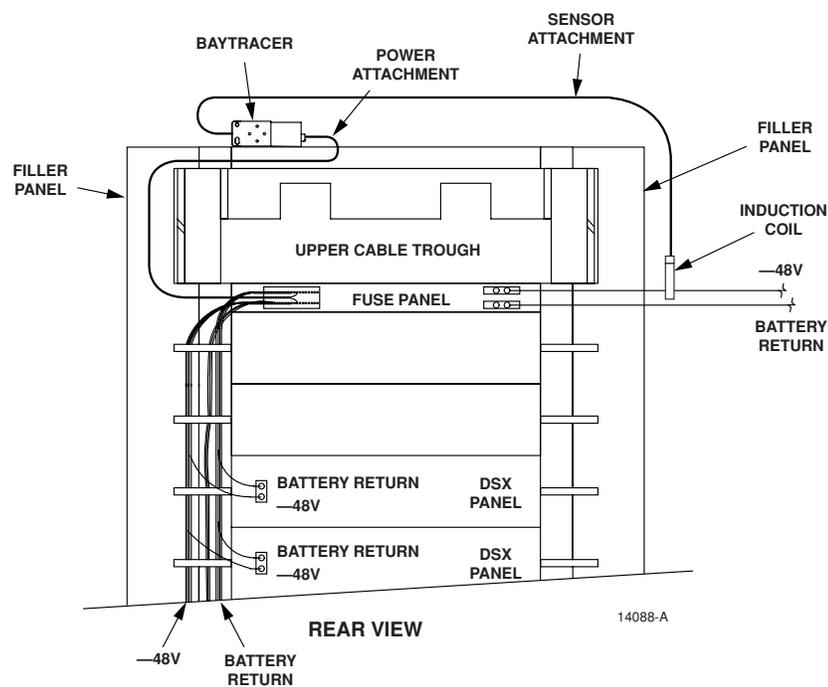
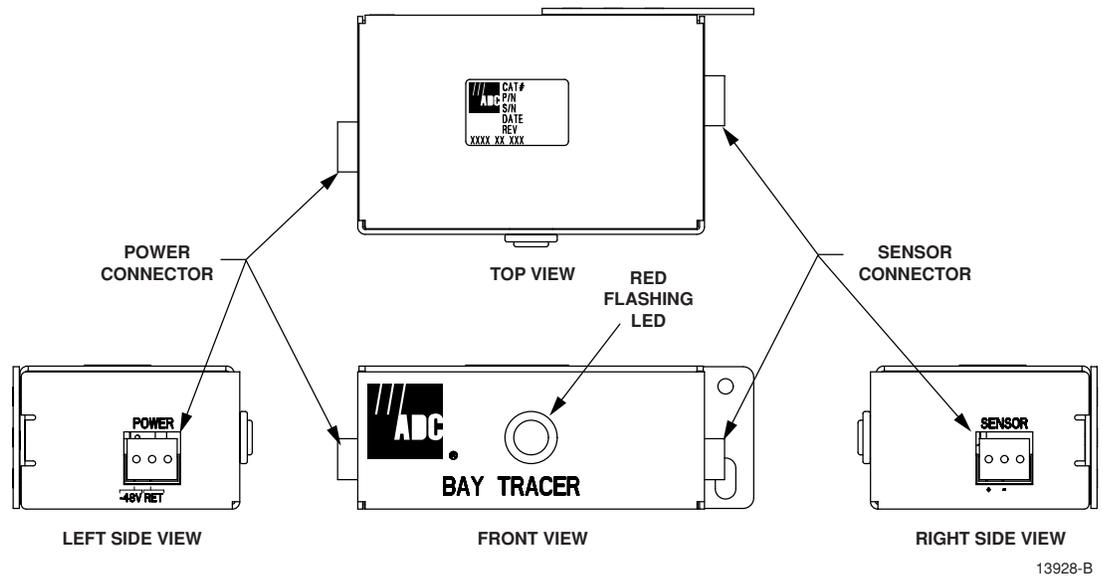

Figure 3. Sensor Cabling Option A
Figure 5. Bay Tracer Electronic Sensor Device Connectors
- a. Unsnap the top bar of the inductive pick-up coil. Insert the main DSX-1 or DSX-3 –48 Vdc power conductor into the inductive pick-up coil as shown in Figure 3, making sure that the label side of the coil faces toward the power source. Snap the top bar back into place after inserting the power feed wire. Anchor the power conductor to the inductive pick-up coil with a tie wrap or lacing cord in accordance with local practice.
4. Attach the trailing wires from the inductive pickup coil to the ADC-provided sensor connector making sure that the white conductor is routed to the negative (-) pin on the SENSOR receptacle and the black conductor is routed to the positive (+) pin on the receptacle. See Figure 5.
5. Attach the customer-supplied power feed wires for the electronic sensor device to an unused -48 Vdc branch circuit on the DSX-1 or DSX-3 fuse panel as shown in Figures 3 and 4. Attach the opposite ends of these wires to the ADC-provided power connector on the electronic sensor device making sure that the wire supplying -48 Vdc is routed to the -48 V pin on the POWER receptacle and the battery return wire is routed to the RET pin on the receptacle. See Figure 5. A reverse blocking diode is incorporated into the electronic sensor device to prevent damage from a power lead reversal.